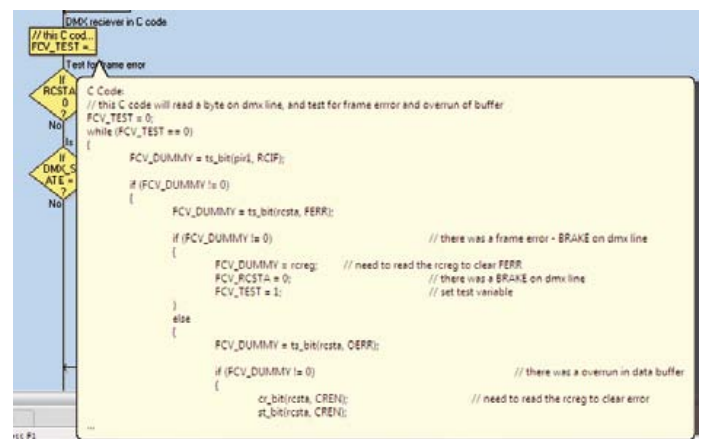

Figure 2. The C code box handles the DMX512 data reading and frame error / overrun detection.
Step2. The next thing was the DMX receiver part, this was a bit more tricky to get right as it makes use of the standard Flowcode RS232 component and a C code box. The RS232 macro call is used to setup the baud rate for the receiver (250 Kbits/s) and to enable the hardware. The C code box (**Figure 2**) contains the code that takes care of receiving incoming DMX data and testing for errors. The DMX data format is defined as (in sequence and extremely simplified):